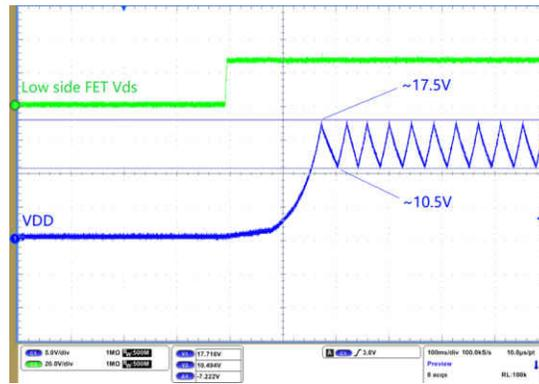

Figure 1-2. VDD Start Up and Hiccup at Below Brown In Voltage
2. Step 2: If zero current is observed. Move to VDD pin to check if HV start circuits working properly, 25 Vrms voltage implied on the input, the captured waveform of VDD as shown in Figure 1-2: If VDD voltage can be charged to ~17.5 V, it indicates the HV start circuits working normal. if not please refer to Debugging UCC28780 ACF Converter Start-up Issues section 7.3, *Start-up Failure Due to VDD Clamped Low*.